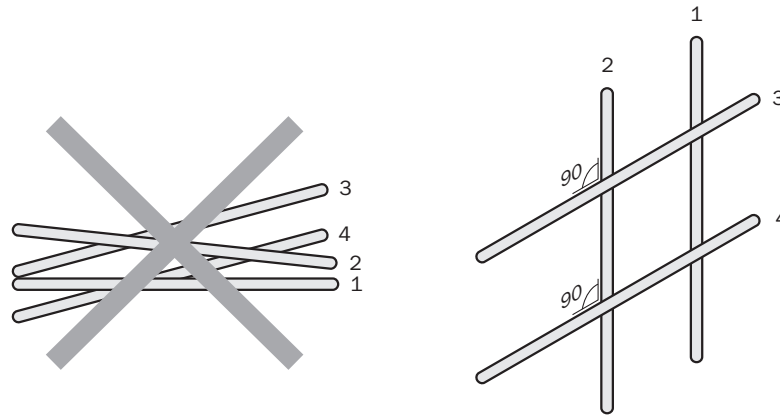

Figure 4: Cross cables at right angles
- ▷ Cables in groups 1, 2 and 3, 4 must be crossed at right angles (see figure 4).